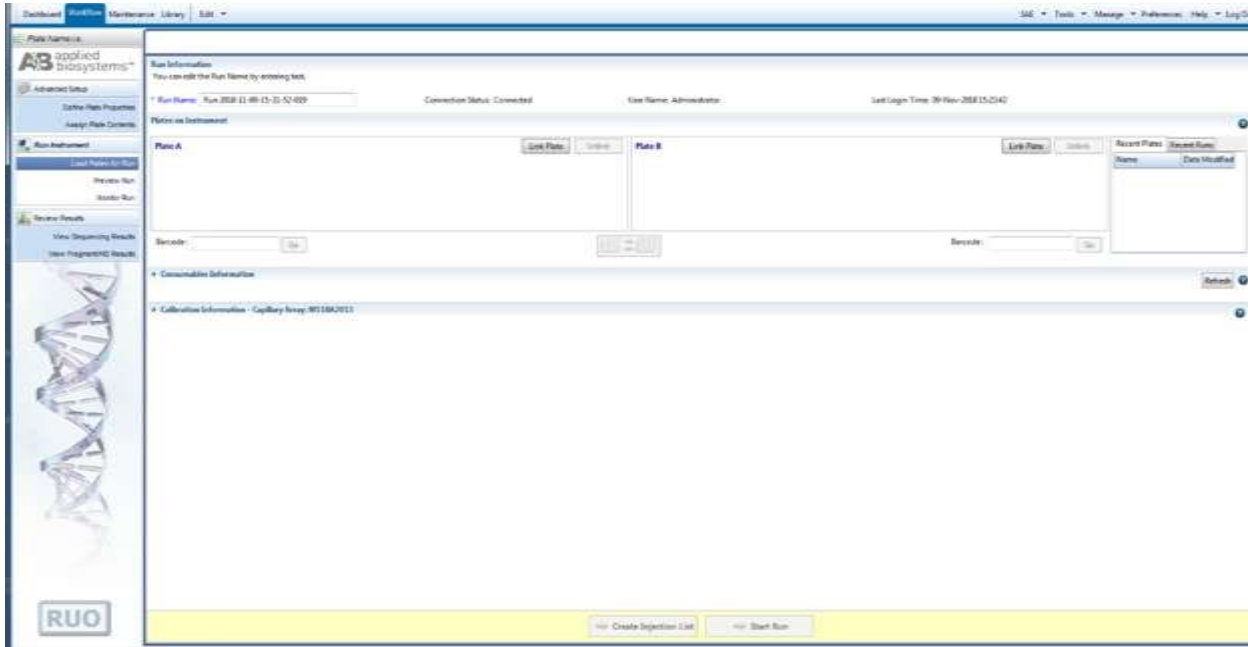

Figure 12. Screenshot for the “Run Information” window on Applied Biosystems® 3500 Data Collection software
- In the Run Information window, give a Run name (Figure 12). Select “Start Run” after loading the plate.